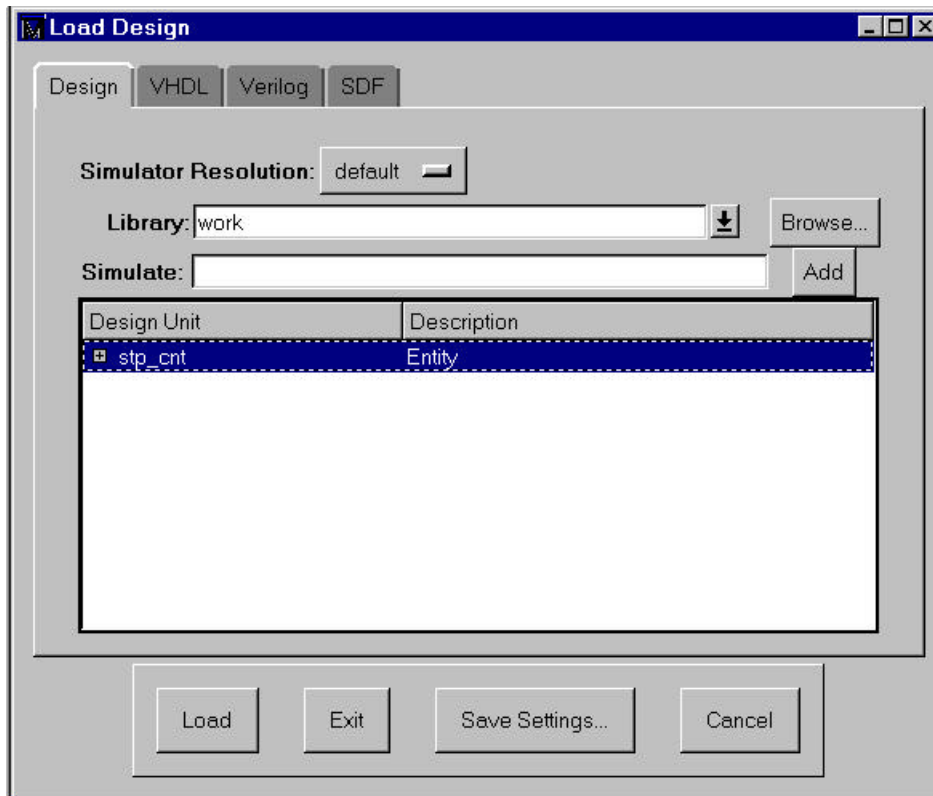

Figure 4: Load Design dialog box.
6. Loading the simulator. Select **File > Load New Design** or select the **Load Design** button. This displays the **Load Design** dialog box (see Figure 4), which displays the design units available in each of the libraries. Ensure that the design tab is highlighted. Ensure that the work library is visible in the library section. Each of the units in the work library is displayed along with a description of the type of unit. The description includes entity, architecture, config or package for VHDL units and module for Verilog units. Each unit type is highlighted with a different color. At the beginning of the line with a VHDL entity there in a '+' sign. Toggling this '+' sign with the mouse shows the architectures that have been compiled for the entity. Once the correct design is selected press the **Load** button. This loads each of the design units needed for the simulation of either the VHDL configuration or the Verilog testbench module.